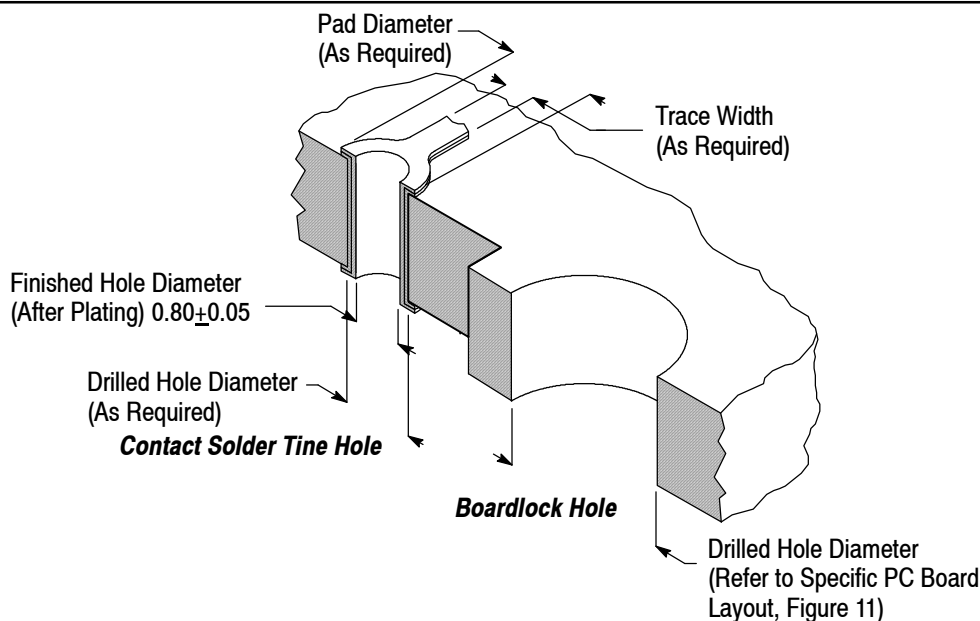

Figure 10
2. The pc board holes for the contact solder tines and boardlocks must be drilled and plated through to specific dimensions to prevent stubbing during placement of the connector on the pc board and to ensure optimum continuity for circuits after soldering. The drilled hole size, plating types, and plating thickness will depend on application requirements. The finished hole size must be as stated to provide unrestricted insertion and ensure adequate application of solder to the solder tines. See Figure 10.